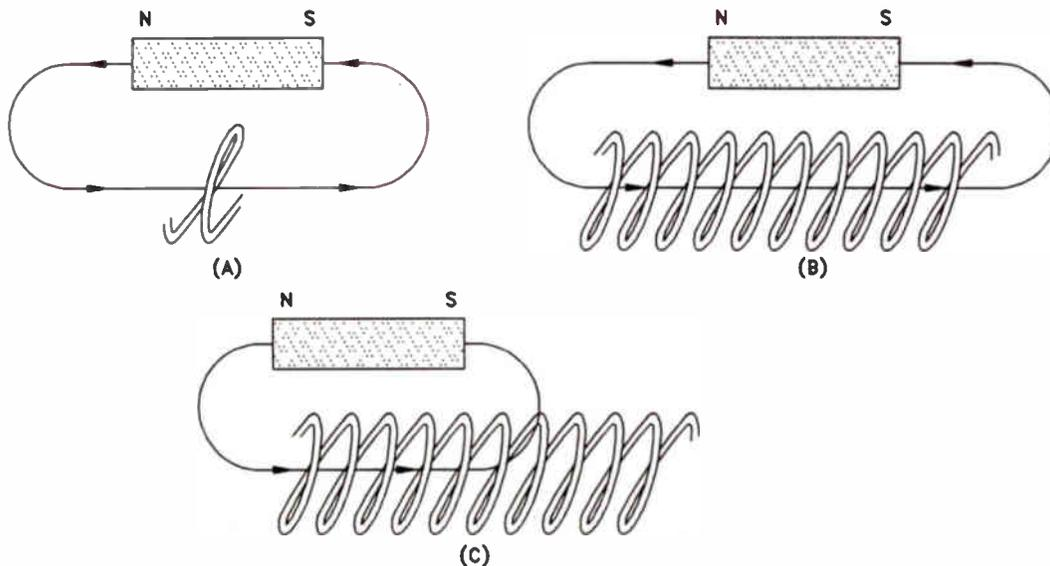

Figure 7. How the number of flux linkages can be changed. (A) There is one flux linkage. (B) There are 10 flux linkages. (C) There are six flux linkages.
**Flux Linkages.** Suppose you have a magnet that produces a single magnetic line of force. If the magnet is brought near a coil having one turn, such as that shown in Fig.7(A), there will be one magnetic line linking with (or passing through) the one-turn coil, and there will be one flux linkage. If there were 10 turns on the coil and one line of force passed through all 10 turns, then there would be 10 flux linkages, as shown in Fig.7(B).
In turn, if the single magnetic line passed through and linked only 6 turns of the 10-turn coil, as shown in Fig.7(C), there would be only 6 flux linkages. Flux linkage tells us how many magnetic lines of force pass through and “link” the turns of a coil. If we have a magnet that produces 100 magnetic lines, and if the entire 100 lines are linked to a coil having 80 turns, the number of flux linkages is  $80 \times 100$ , or 8000 flux linkages.